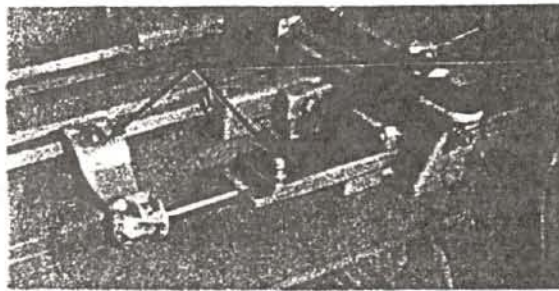

Fig. 22
- c. Putty around bracket as shown in Fig. 22. Pour babbit through one hole until it flows out through the other side. Allow babbit to set a few minutes.